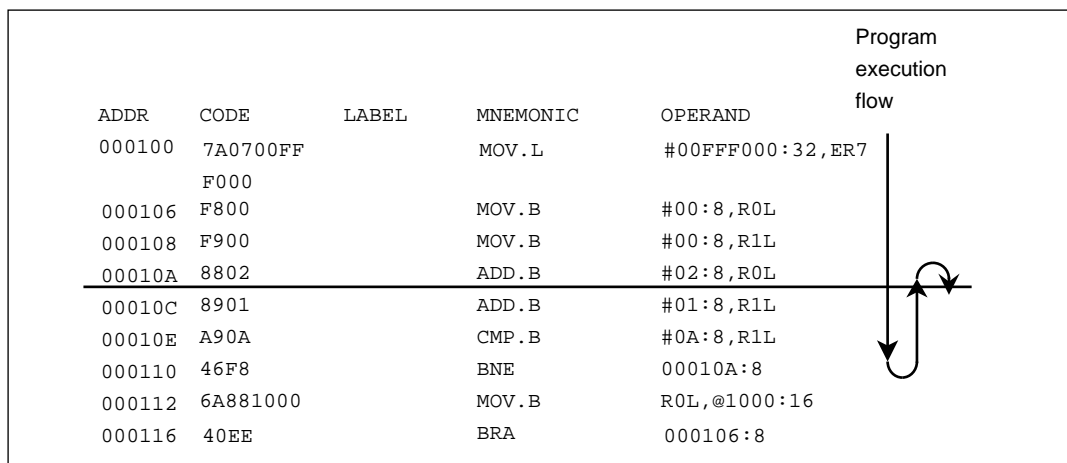

Figure 4-1 Program Execution Flow
1. Enter BREAK_SEQUENCE 110 10A (RET), which terminates program execution when the instructions at addresses H'110 and H'10A are executed consecutively in that order, as shown in figure 4-1.